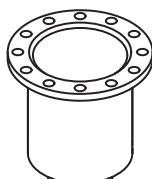

Fig. 1.17
1.5.11) Insert the internal rod "A" in the pinion pos. 73 fitted previously on the external tube pos. 71 (Fig. 1.17).